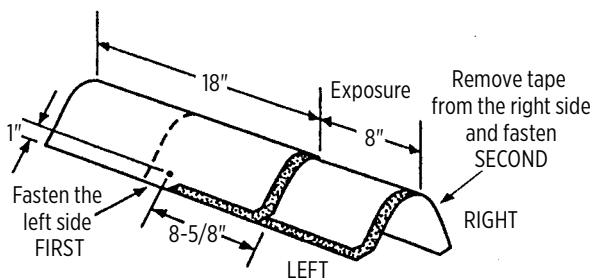

Figure 17-19: Installation of Shingle Ridge shingles on hips and ridges.
- Fasten each cap with two fasteners (Figure 17-19). The fasteners must be  $\frac{1}{4}$ " long, or longer, so they penetrate either  $\frac{3}{4}$ " into the deck or completely through the deck, exposing at least  $\frac{1}{8}$ " of the tip of the nail. Expose 8" of the Accessory along the ridge or hip line and cover all fasteners.